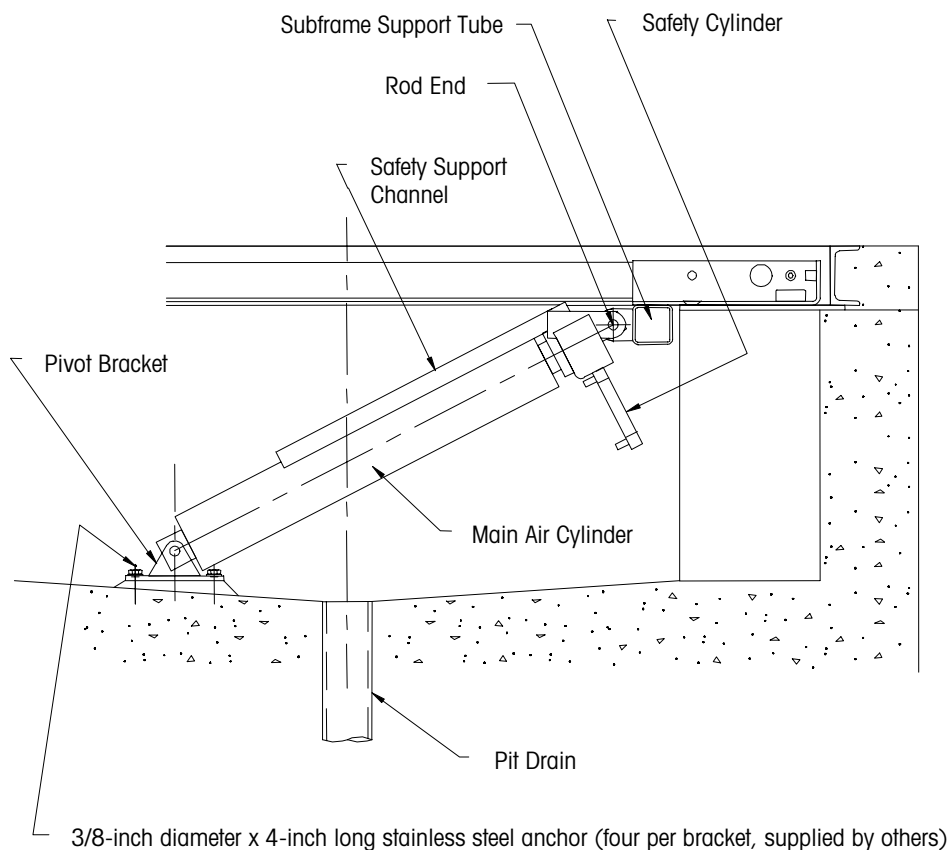

Figure 2-2: Air Cylinder Installation
3. Attach the rod end of each air cylinder to the subframe support tube (see Figure 2-2). Align the holes at the rod end of the cylinder with the hole on the support tube. Insert a pivot pin in the holes, and secure the pin with two hair-pin cotters.